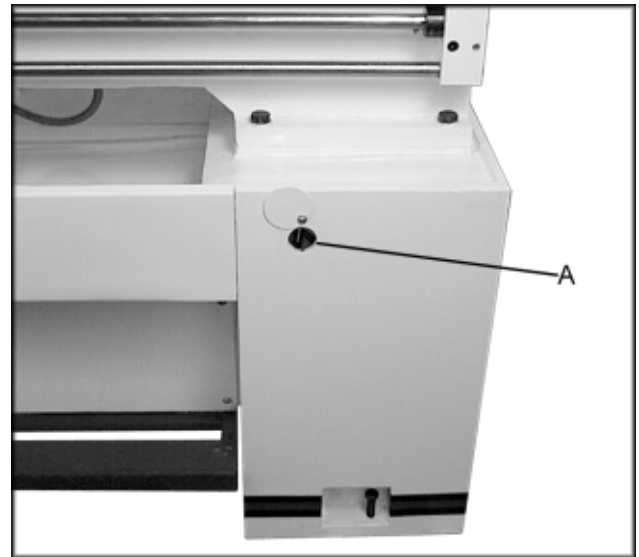

Fig. 1
4. Place two steel rods or pipes (of sufficient strength) into four holes (A, Fig. 1) of lathe stand. Sling the lathe with properly rated straps. **Do not lift by spindle.** With adequate lifting equipment, slowly raise the lathe off the shipping crate bottom. Make sure lathe is balanced before moving.